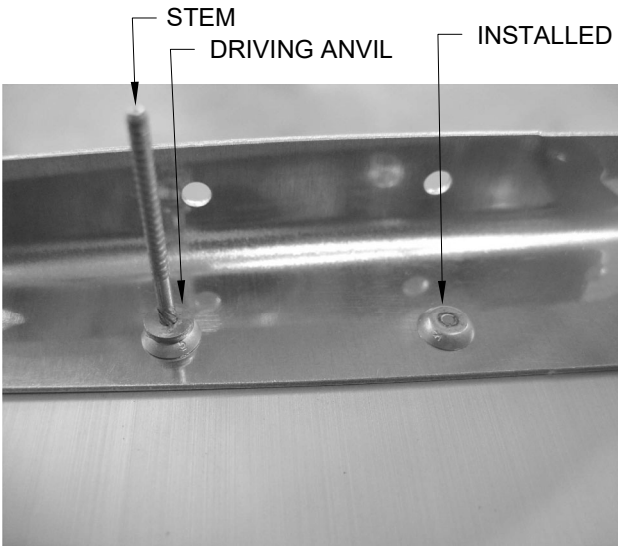

FIGURE 1: MANUFACTURED HEAD
This small washer like device located above the manufactured head is a critical component of the installation process and **must not be removed**. It will detach on its own after the stem breaks. See Figure 1.
Step 3: Insert rivet in hole and verify manufactured head fits square and flush to material surface. See Figure 1.